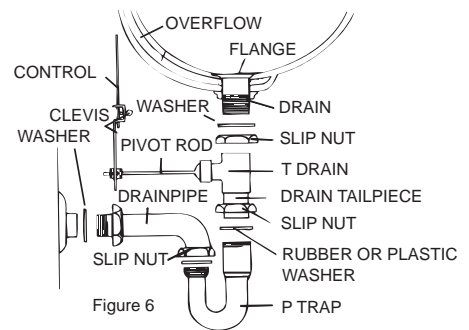

Figure 6
14. Connect the drain tailpiece to the bottom of the pop-up, then fasten the trap and drain extension to the wall stub-out in the wall. See Figure 6. You may use metal or plastic drain pipe and trap, following the directions provided by the manufacturer.